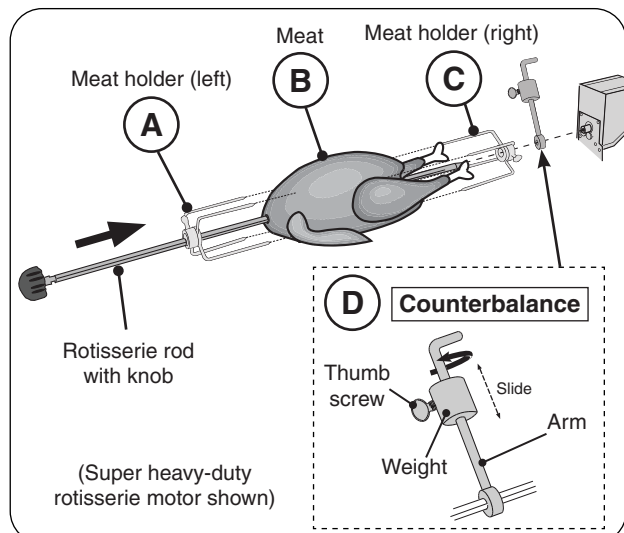

Fig. 30-3 Assemble rotisserie rod for cooking
4. Slide the left meat holder onto the rod and tighten (see Fig. 30-3, A).
5. Then slide meat onto the rod, followed by the right meat holder (see Fig. 30-3, B and C).
8. The counterbalance may then be attached to even weight distribution. Slide the counterbalance onto the rod next to the right meat holder (see Fig. 30-3, D). Loosen the arm and point it upward opposite the heavy side of the meat. Tighten the arm.
9. Slide the counterbalance weight up or down the arm until the rod rotates most evenly then tighten thumb screw (see Fig. 30-3, D).